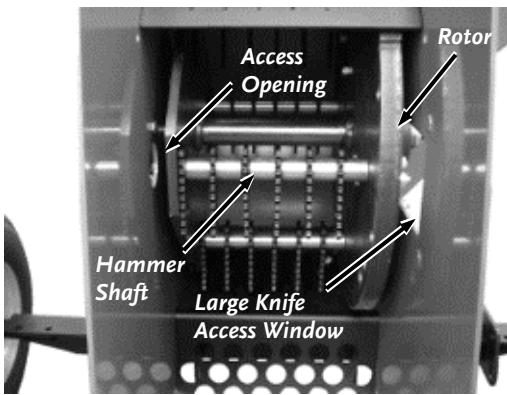

Figure 45
12. Use a Stick to rotate the Rotor until the Hammer Shaft is lined up with the Access opening and Large Knife Access opening (**Figure 45**).